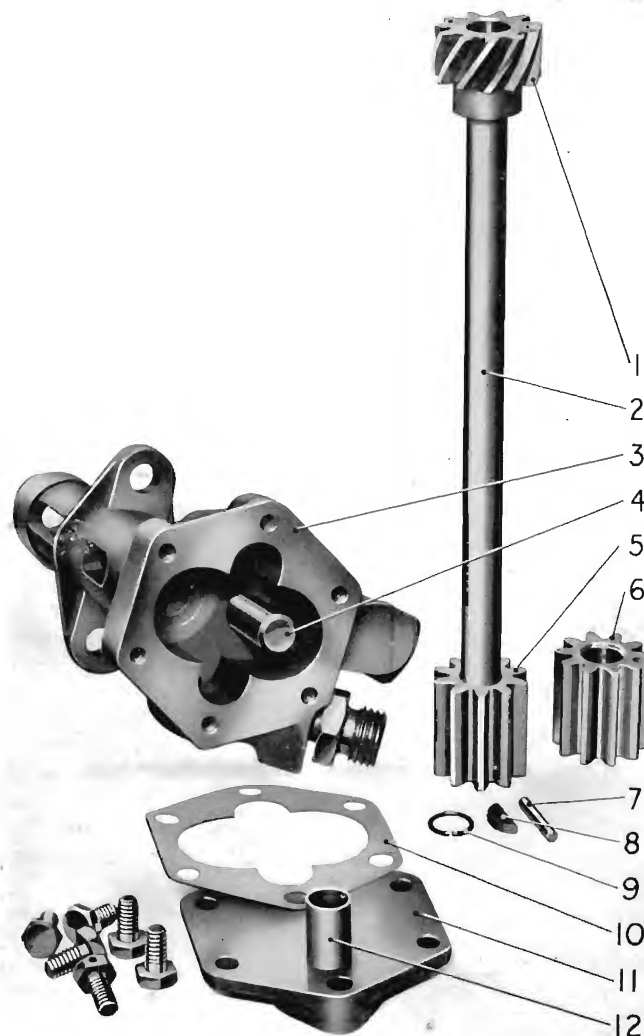

Fig. 9.
To dismantle the oil pump, take off the locking wire (3), Fig. 10, and remove the six setscrews securing the cover and remove the cover. The idler gear spindle (4), Fig. 9, can be punched out from the top, the skew gear (1) on the upper end of the driving spindle is secured by a taper pin. Drive out the taper pin and the spindle can be drawn through the skew gear. The pump driving gear is keyed on the spindle and secured by a circlip.